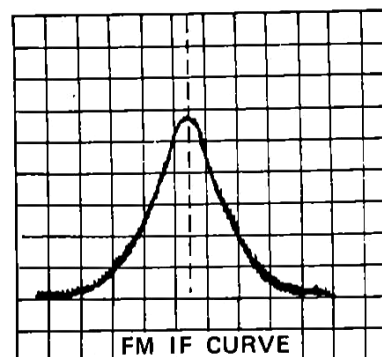

Fig. 1
- (1) Connect TP-2 (hot) and TP-3 or 102 (ground) to the output terminals of sweep generator, and TP-202 (hot) and TP-206 (ground) to the input terminals.
- (2) Disconnect ceramic capacitor C217 ($0.022\mu\text{F}$).
- (3) Reduce the input level of the set as small as possible so that the output waveform may not be saturated.
- (4) While watching the sweep waveform, adjust the T201 until the sweep waveform presents the pattern as in Fig. 1